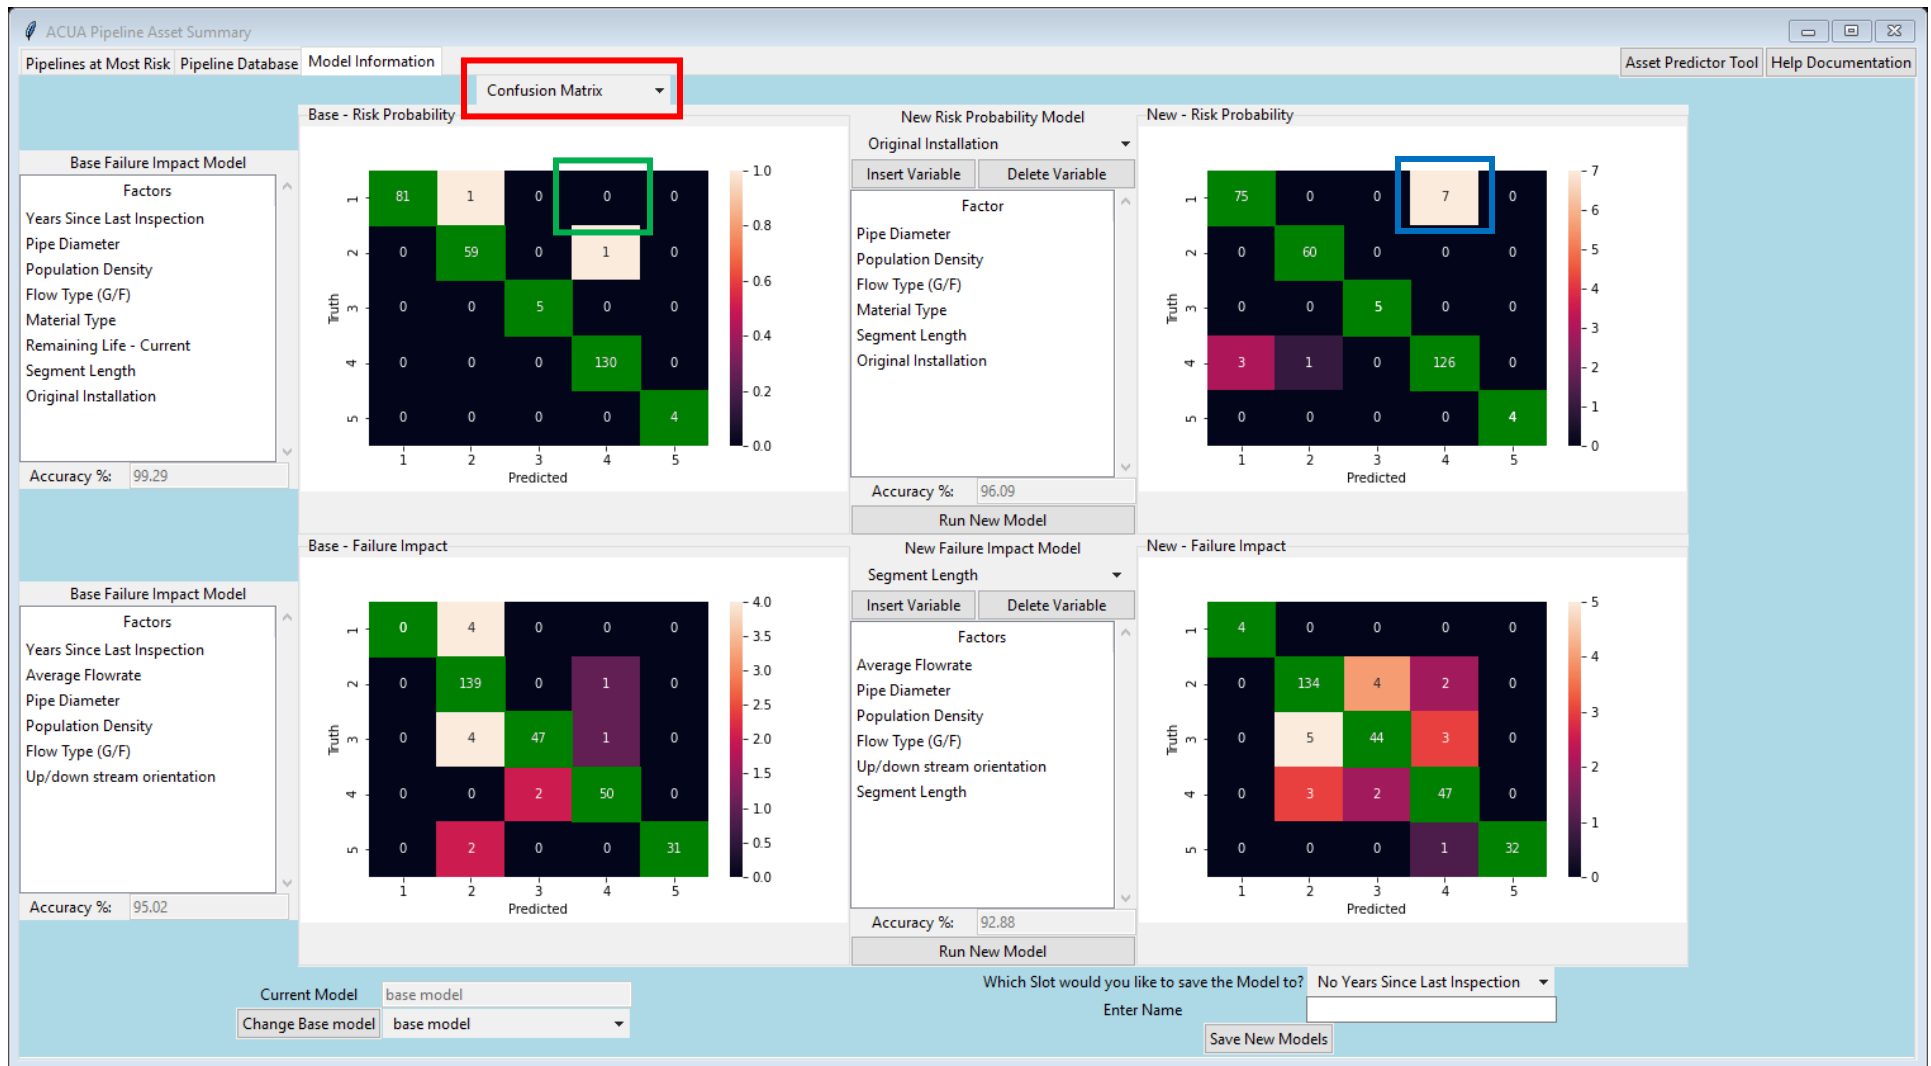

Figure 15: Showing the confusion matrix function from the drop-down menu
- c. By looking at Figure 15 there are two examples outlined in blue and green